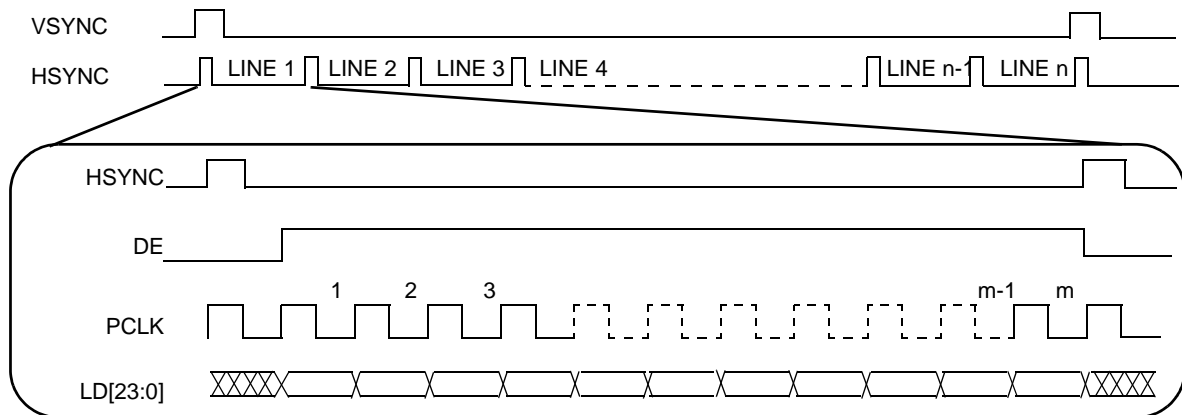

Figure 24. TFT LCD interface timing overview¹
Figure 24 depicts the LCD interface timing for a generic active matrix color TFT panel. In this figure signals are shown with positive polarity. The sequence of events for active matrix interface timing is:
1. In Figure 24, the “LD[23:0]” signal is “line data,” an aggregation of the DCU's RGB signals—R[0:7], G[0:7] and B[0:7].